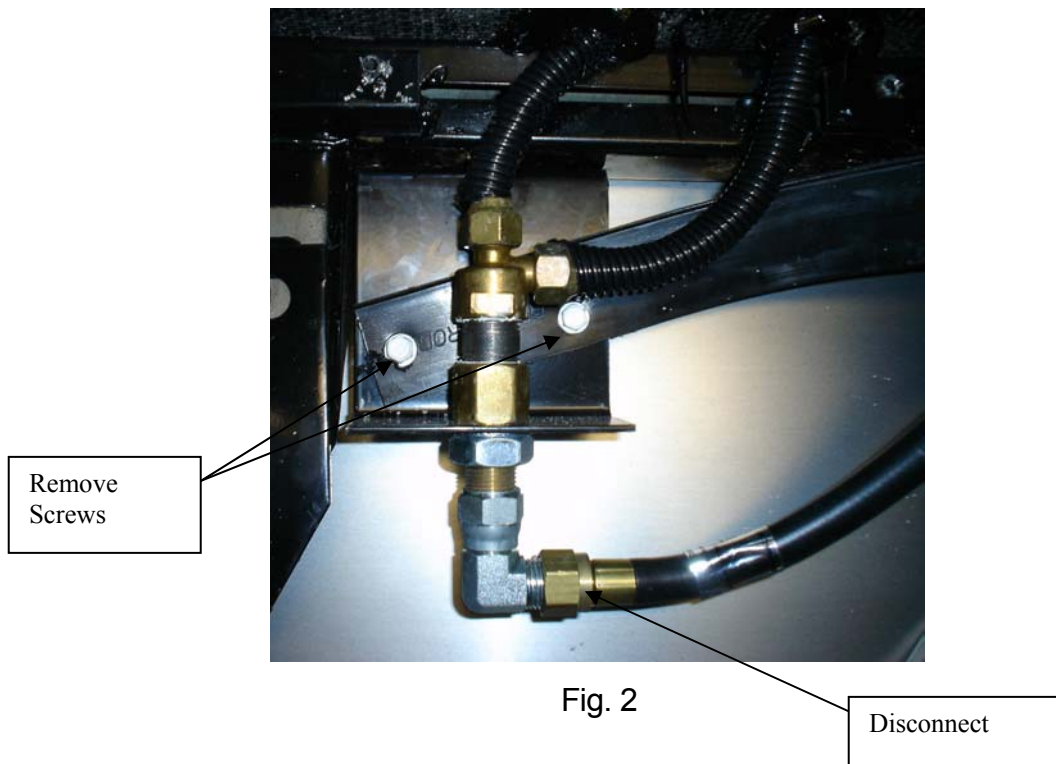

Fig. 2
Step 2. Remove LP flex hose from LP manifold on the kitchen slide out room. See figure 2.
Step 4. Remove the 2 screws holding the flex guard to the LP mounting bracket on the slide room. See Fig 2.